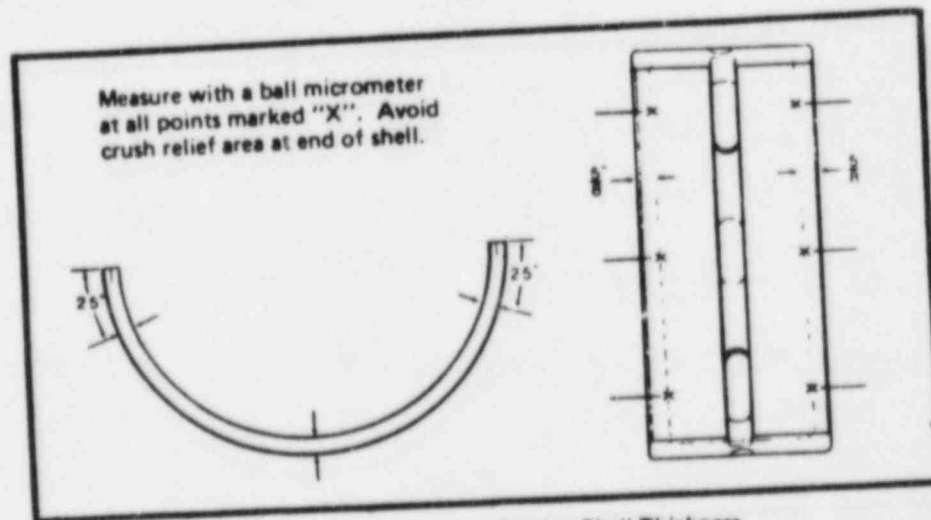

Figure 6-C-7. Measuring Bearing Shell Thickness
- Measure thickness of bearing shells. Use a ball micrometer and measure each shell at six points, as indicated in Figure 6-C-7. Refer to Appendix III for permissible limits.